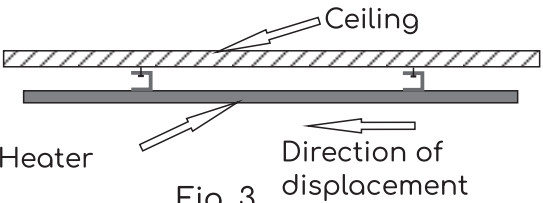

Fig. 3
6. Screw in the wood screws with washers into ceiling plugs without screwing two turns (see Fig. 3).